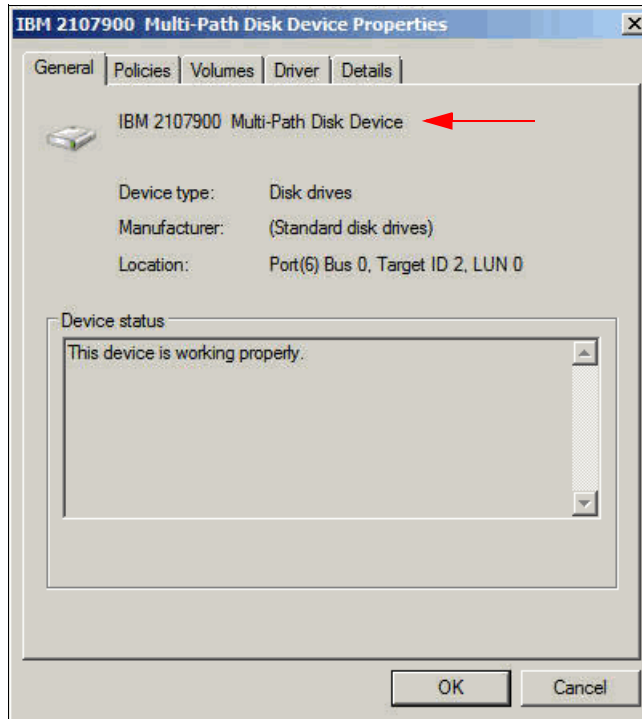

Figure 3-52 Disk with multipath installed
- e. After rebooting the server, check the Disk properties, as shown in Figure 3-52.